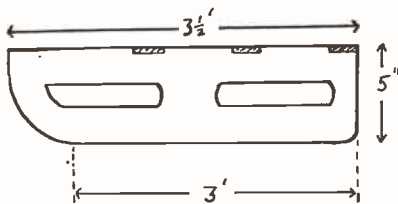

Fig. 1
The draw-out extension must be prevented from emerging too far, so a simple form of stop should be fixed. This is shown in Fig. 4, and consists of a metal pin (E) (which can be a brass screw with its head filed off) and a screw driven in the fillet (B). Position the pin for it to strike against the screw (F) when the draw-out is extended to a safe extremity. Now glasspaper the whole article, and stain and varnish as desired. It might be as well, to facilitate an easy draw, if a strip of wood some 4ins. long were glued under the 'draw-out' near its forward end, as shown in Fig. 1.
The large holes in the sides (Fig. 1) are not only decorative but, more important, they help considerably to lessen the weight. Their size depends largely on the strength of the wood. Do